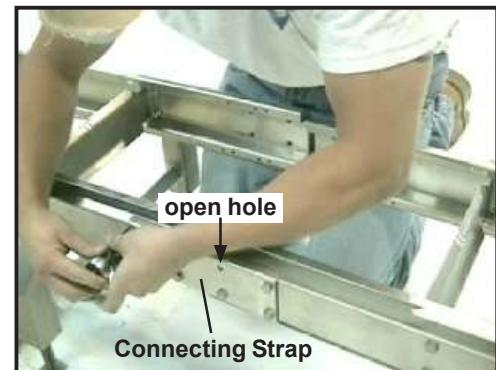

Figure 5: Tighten first four bolts
- Insert bolts through the connecting straps and holes in the side frame. NOTE: You will need to leave one hole open, so you can use an alignment tool to help align the frames. After this step there should be four bolts in one end of the strap and three bolts in the other end, with one open hole (*Figure 5*).
- Using a 1/2" (13mm) wrench, tighten the four bolts in one end of the connecting strap (*Figure 5*).